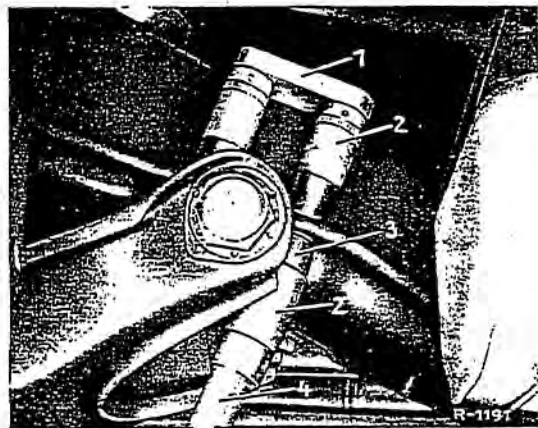

Fig. 32-4/5
10. Remove the two Guides (5) 120 589 01 31, since now the lower control arm pivot pin is properly centered through the two guide pins of the cradle.
11. Insert the two inner hexagon screws (12) from above and tighten with hexagon nut and lock washer.
**Note:** When repairs are carried out, the hexagon screws are fitted with the head upward and not as shown in Fig. 32-4/3 with the head downward.